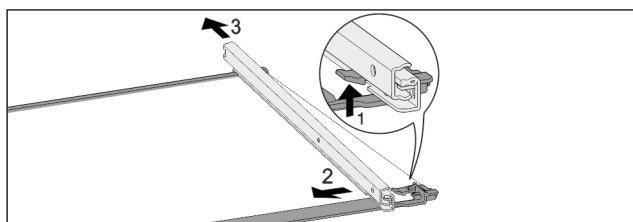

Fig. 127 Glass shelf with rails
- ▶ Push up front click-in hooks. Fig. 127 (1)
- ▶ Move the pull-out rails to the side Fig. 127 (2) and to the rear Fig. 127 (3).